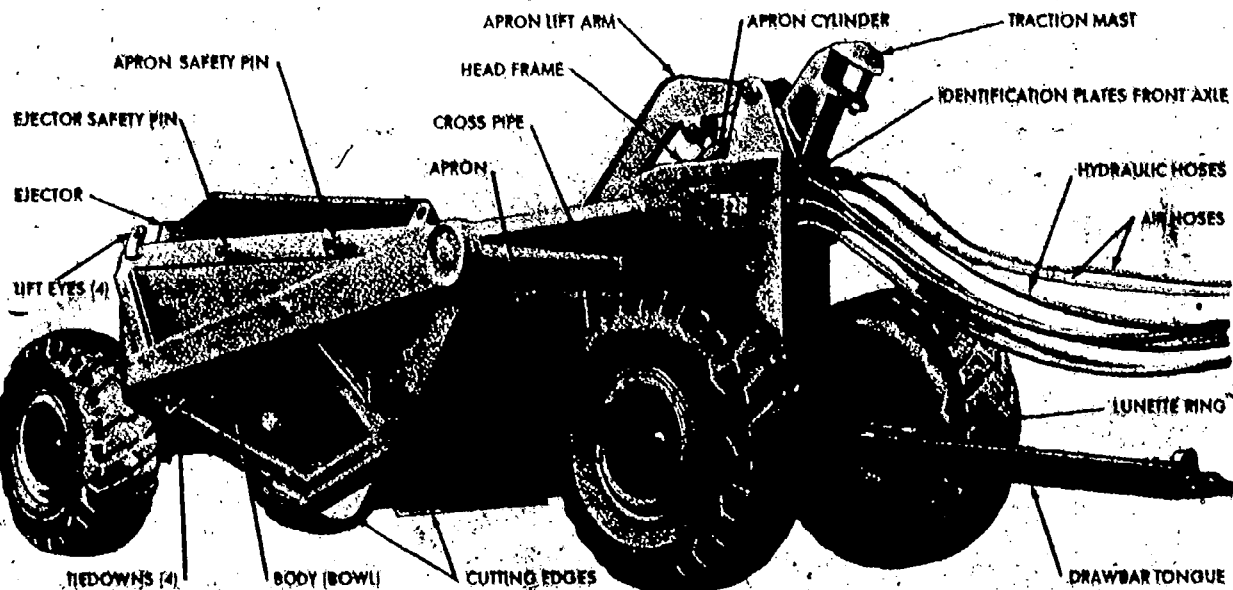

Fig 1-10. Model H-82 scraper.
(2) Types.
- (a) Model H-82, hydraulically operated towed scraper (fig 1-10). The H-82 has a capacity of 8-cu yd struck or 10 1/2-cu yd heaped and is found primarily in division engineer battallions and force engineer battallions. It may be teamed with either the Case MC 1150 scooploader or the MRS-100 rubber-tired tractor. The scraper is equipped for weight transfer operations and has airbrakes. An additional feature of the scraper is that it has been designed for sectionalization into helicopter-transportable units.